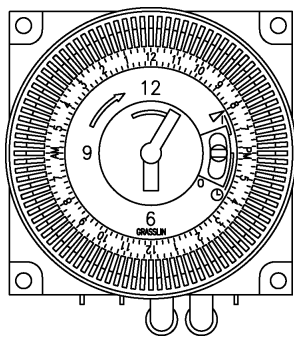
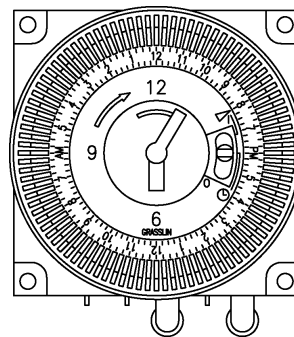
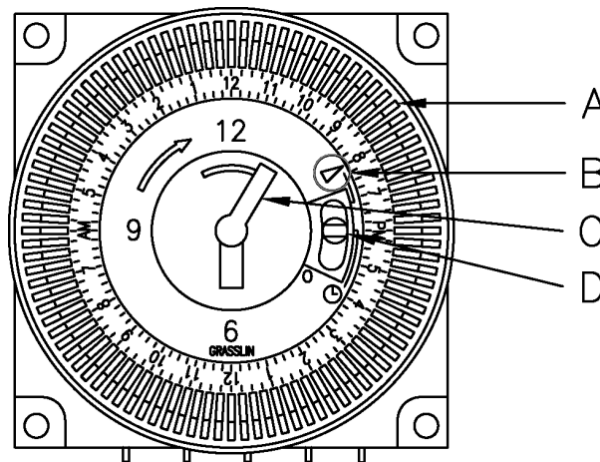

Figure 1:
Figure 2:
Figure 3:
2. Note the wiring of the timer contacts. If your panel is using the normally open contact (Figure 1) the load will be switched off when the tab (Figure 3: A) at the arrow (Figure 3: B) is pushed **in**. If your panel is using the normally closed contact (Figure 2) the control logic will be inverted and the load will be off when the tab at the arrow is pushed **out**.
3. Start by flipping each white tab (Figure 3: A) to the off position. Whether the tab must be pushed in or out is dependent on what you observed in step 2.
5. To synchronize the timer with the time of day, push the white clock hand (Figure 3: C) in a clockwise direction until the marking for the current time of day is aligned with the arrow (Figure 3: B)
6. Check that the manual override switch (Figure 3: D) is in the center position.